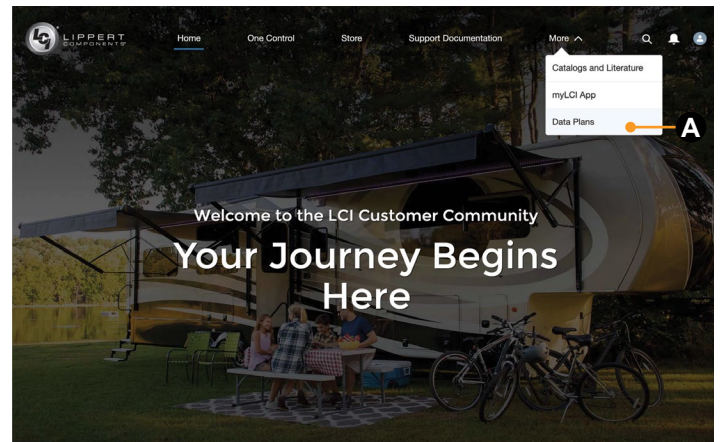

Fig.25
3. If an LCI Customer Community account (Fig.25) has been previously created, log in with the previously created email and password (Fig.12A) then click the Login Button (Fig.12B). See step 16. Otherwise, a new user account will need to be created to initiate the OneControl Hotspot gateway. For the first time logging in, click the Create Your Account link (Fig.12C) on the homepage.
16. The LCI Customer Community screen will look like figure 25. Click the subhead More and choose Data Plan (Fig.25A) from the drop down menu.